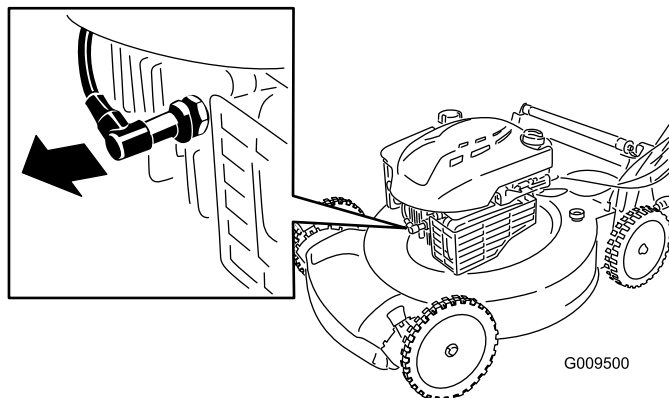

Figure 20
3. Disconnect the spark plug wire from the spark plug (Figure 20) before performing any maintenance procedure.